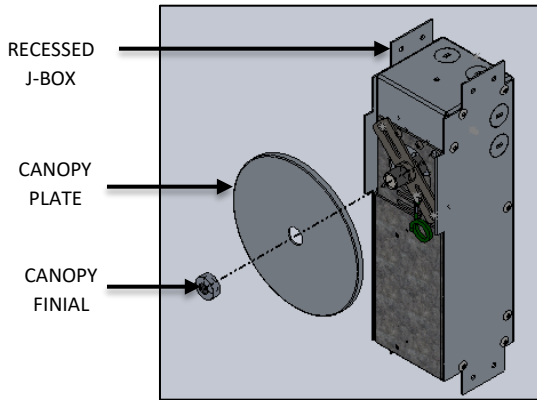

FIG. 5 - FINIAL AND CANOPY DISASSEMBLY
1. Unscrew CANOPY FINIAL and remove the CANOPY PLATE out of J-BOX as shown in FIG 5.